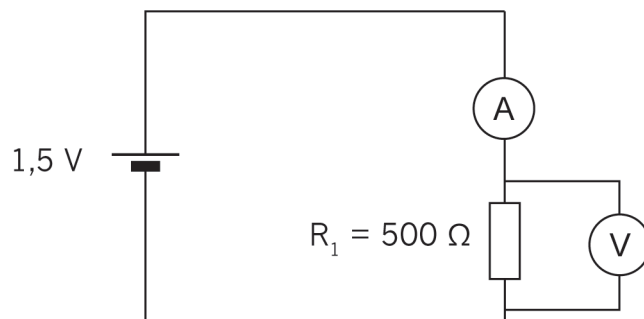

Figure 21: Circuit with one cell, resistor, ammeter and voltmeter across resistor
2. Now connect a voltmeter across the resistor, as shown in Figure 21. If you use a multi-meter instead of a voltmeter, set it on the volts scale.